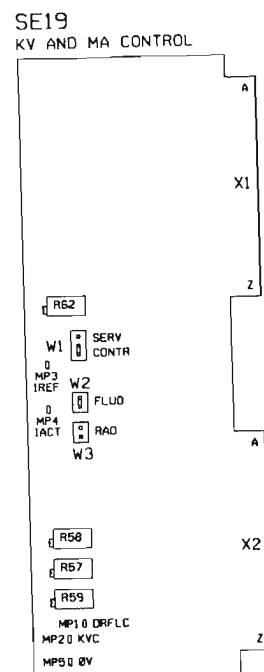

Figure 15
- Set jumper **SE19:W1** to "**SERV**" position (manual mA control) (see Figure 15).
- Adjust the entrance dose given in Table 3 by varying the mA value with potentiometer **SE19:R62** (see Figure 15).
- z) Stop fluoroscopy and set jumper **SE19:W1** to "**CONTR**" position (see Figure 15).